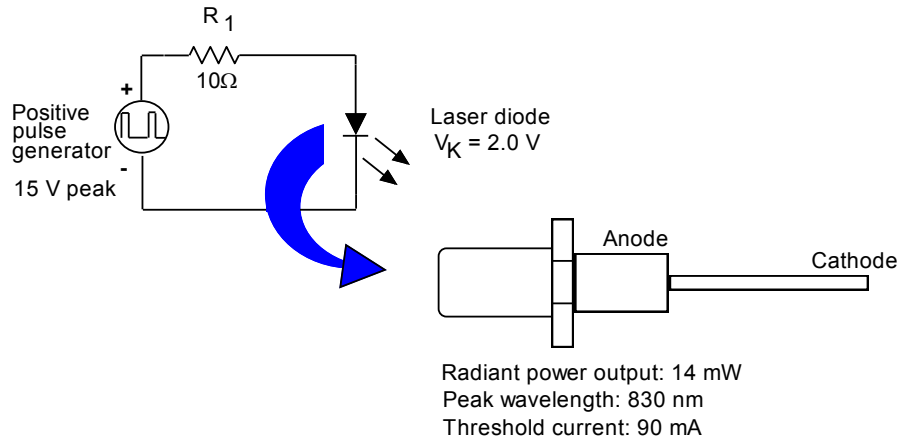

Figure 3-58.
- 3-27. The laser diode in Fig. 3-58 is being pulsed. Using the knee-voltage model, determine the peak forward current through the diode.